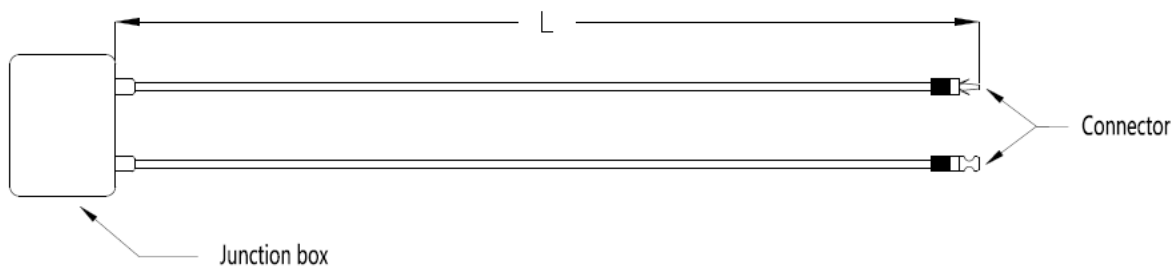

**Figure 8: The graph of Grounding**
- e) All module frames and mounting racks must be properly grounded in accordance with local and national electrical codes. Attach the equipment grounding conductor to the module frame using the hole and hardware provided. Not that a stainless steel star washer is used between the ground wire and module frame (see Figure 8 below).This washer is used to avoid corrosion due to dissimilar metals. Tighten the screw securely.